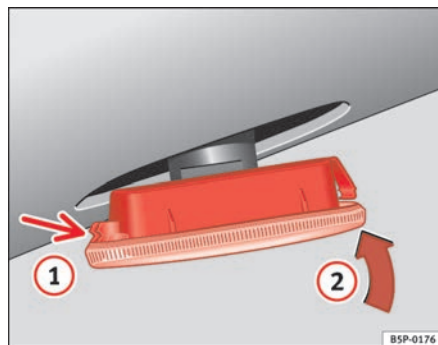

Fig. 197 Side indicator
- First place the indicator in the opening in the bodywork, fixing the tabs ⇒ fig. 197, arrow ①.
- Insert the lamp as shown by the arrow ② ⇒ fig. 197. ■